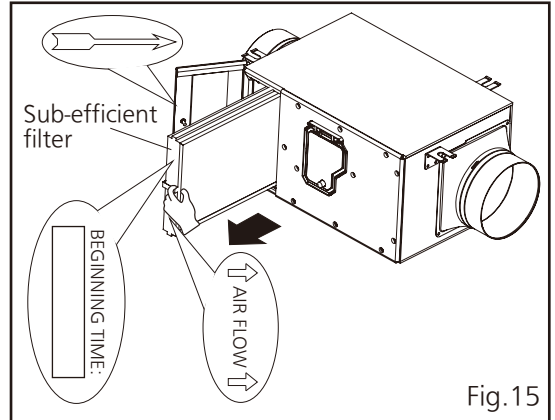

Fig. 15
3. Pull out the sub-efficient filter, clean it with vacuum cleaner once in 3 months when filter indicator lights on with buzzer sound "Pi-Pi-Pi-...". Replace it once in 6 months when filter indicator lights on with buzzer sound "Pi-Pi-Pi-...". (Fig. 15)
4. Install back the filters and close the maintenance board by twist hand screw. Please make sure that the arrow direction on sub-efficient filter is same as the "Air flow" mark on name plate. (Fig. 15)